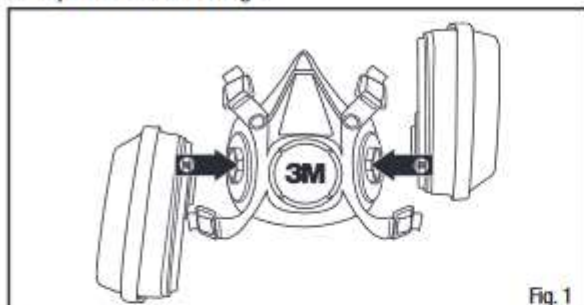

Fig. 1
1. Align cartridge notch with facepiece mark, as shown, and push together (Fig. 1).